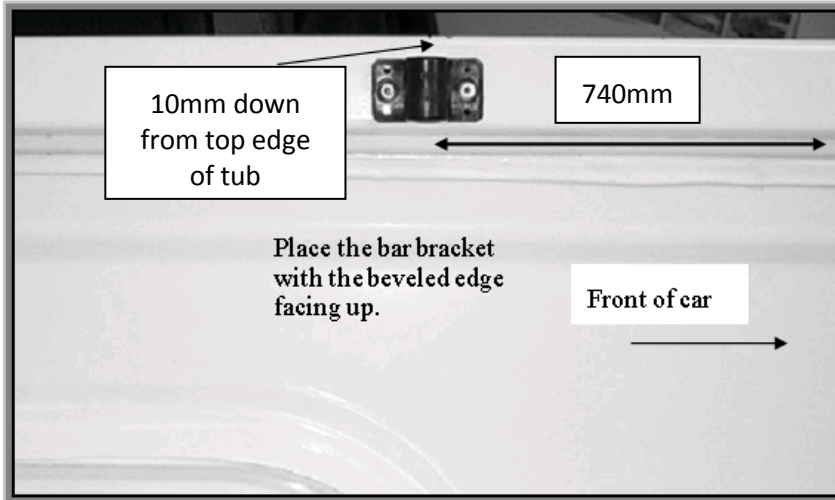

Figure 2: Placement of bar bracket
1. With the pencil mark the inside edge on each side of the tub at 740mm from the inside front face of tub towards the rear on each side. Centrally locate the bar bracket over this position and align the top of the bar bracket 10mm down from the top edge of the tub and drill and rivet bracket into place. **See Figure 2.** Repeat for other side of tub. Fit tonneau support bar to bar brackets.